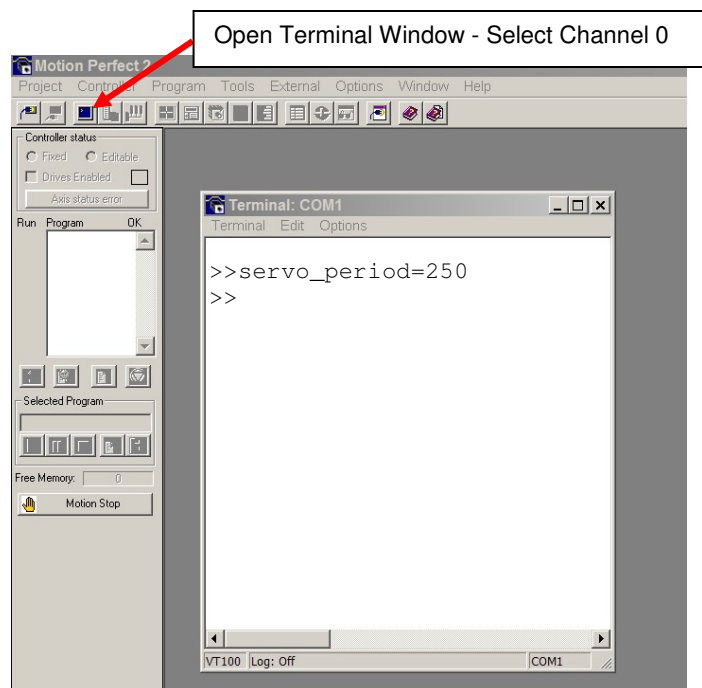

Fig 5 – Setting MC302-K `SERVO_PERIOD`
2. Open the Channel 0 Terminal window as shown in Fig. 5.
As with all Trio controllers, the Command Line interface "`>>`" can be a useful tool for debugging a system as shown in Fig 5. Drive parameters can be read and written to using the `DRIVE_` commands listed in Section 5.0. Other Trio BASIC command can be issued here such as `FORWARD`, `CANCEL`, `MOVE(x)`. Visit www.triomotion.com for the complete manual of commands.